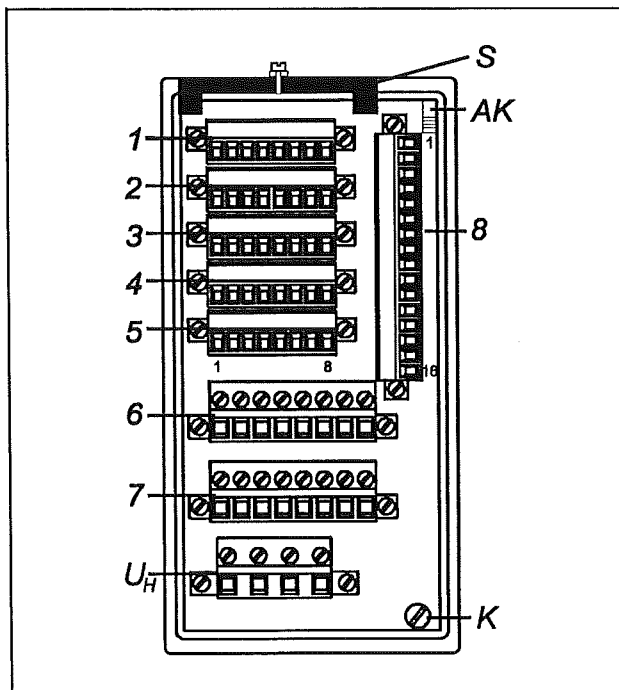

Fig. 22 Rear view (here: Protronic 500/550)
3. Insert or remove module (for slots see fig. 22 next page). When inserting the module, it must be ensured that it is carefully slid in up to the limit.